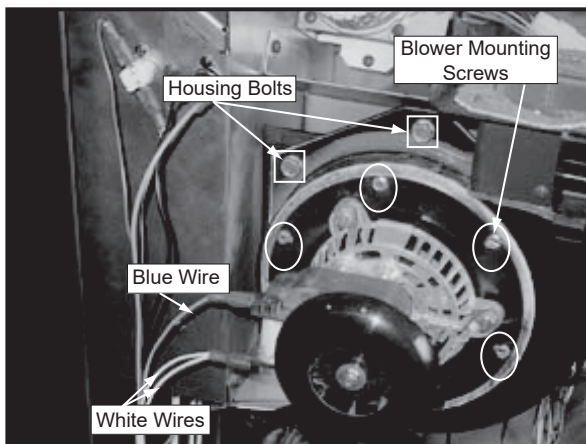

Figure 26.2
- Disconnect the white and blue wires from the blower. Remove blower mounting screws (not housing bolts), **Figure 26.2**, from blower housing and remove blower. The replacement blower is shipped with a housing. If you do not need the housing, discard it. If you do need to replace the housing you will also need to replace the gasket (**See Service Parts starting on page 29 for the part number**).